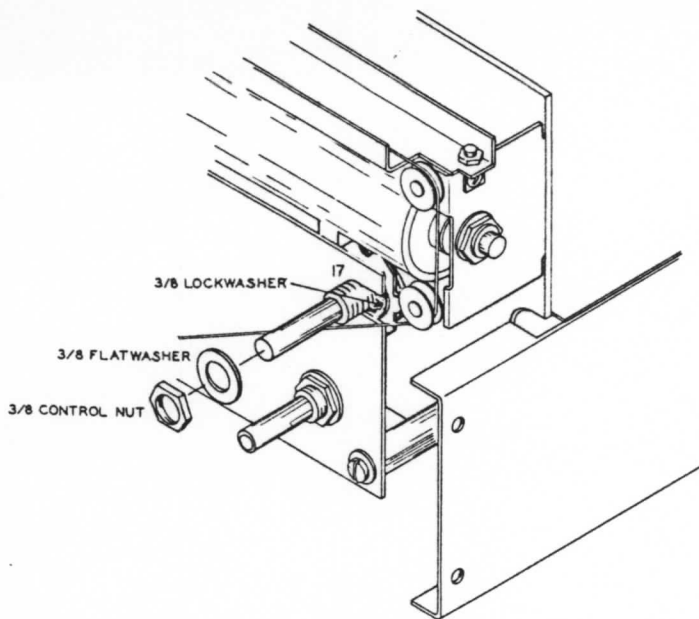

Figure 30
- (✓) Now mount the function switch at location 17 on the front dial plate. Positioning is not critical here. Refer to Figure 30. Use a 3/8" lockwasher over the bushing and secure with a control nut and flat washer on the front side. Push the other wires to the rear but be sure no connections are shorted.